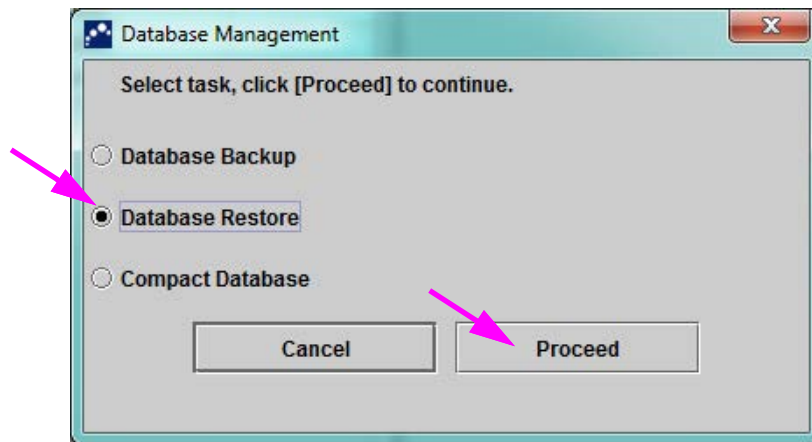

Figure 5-71. Database Management Window
1. Select **Database Restore** on the Database Management window. See Figure 5-71.
9. Either click **Proceed** in the Database Restore confirmation dialog box to continue, or click **Cancel** to discontinue and return to the Database Management screen (see Figure 5-71).
1. Select **Compact Database** on the Database Management window. See Figure 5-71.